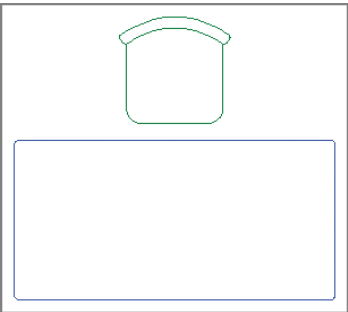

FIGURE 7.10 Chair block inserted 3" from the desk
6. Hold Shift, right-click, and choose From in the context menu. Click the midpoint of the upper desk edge, type @0,3 (or @0,7 for metric), and press Enter. The Chair block reference appears 3" (or 7 cm) up from the center of the desk (see Figure 7.10).